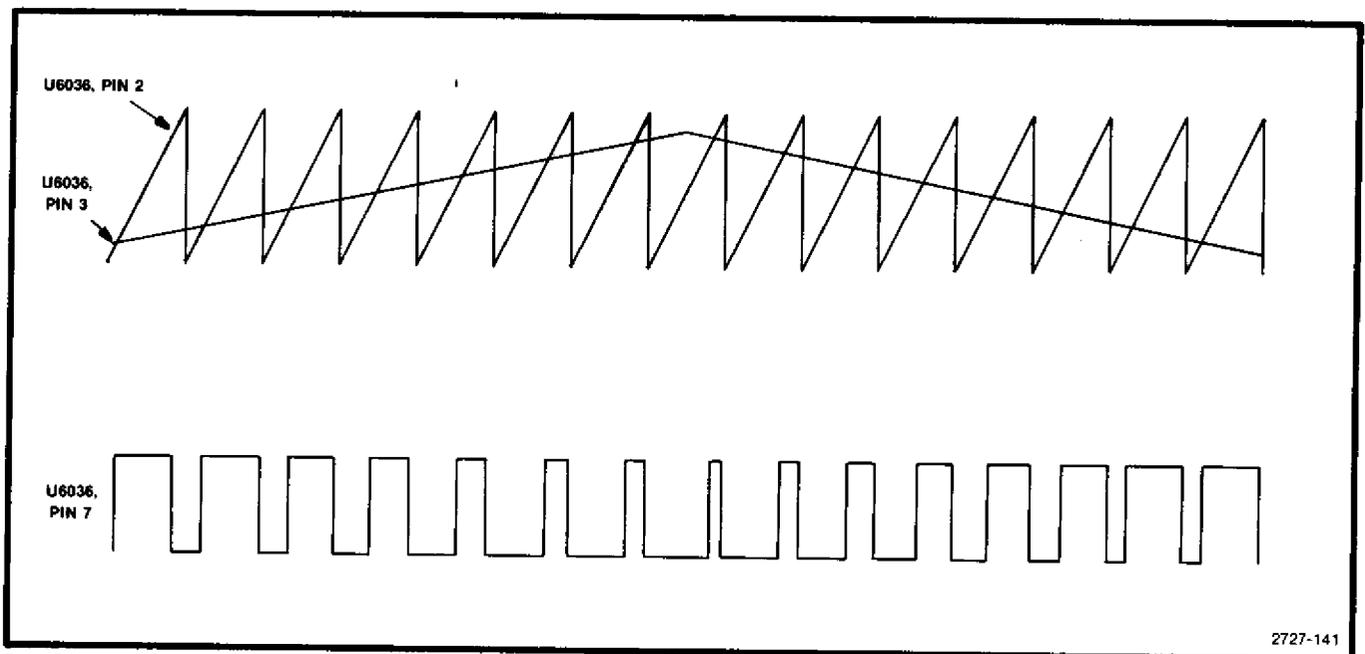

Fig. 5-37. Primary regulator input and output waveforms (stylized).
**Primary Regulator.** This circuit consists of comparator U6036 and U6046, photocoupler U6043, and related components. The circuit varies the duty cycle of the driving signal for the inverter as follows: The +17 V1 voltage is divided by R6038 and R6037 to about +4.8 V, and applied to the inverting input of U6036. The +5 V reference is applied through R6022 to the non-inverting input of U6036, where it is combined with the ramp signal from the ramp generator stage. The non-inverting input thus receives a sawtooth signal of about 500 mV peak-to-peak imposed on +5 V dc level. This is compared with the +4.8 V on the other input, so the comparator switches with each sawtooth cycle. Now, referring to Fig. 5-37, note that as the level at pin 3 (which corresponds to +17 V supply variations) rises and falls, the duty cycle of the output waveform varies also.